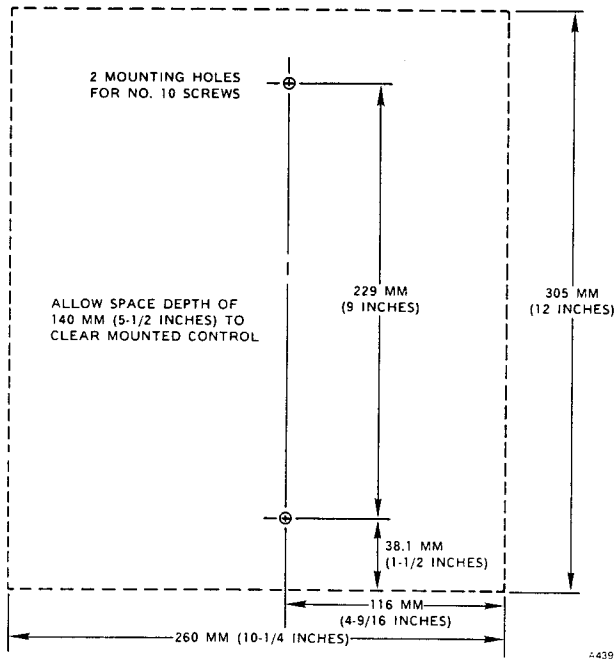

Figure 6—Space and Mounting Layout for 9001-01 Controller (Provides Approximately 1/4 inch Clearance, 3 sides, and 1-3/8 inch Wiring Clearance, Left Side)
*Timers shown in Figure 6 are electro-pneumatic type. Typical timer settings are: TP - 3 minutes, TL - 10 seconds, TM - 15 seconds.*
2. Prepare mounting holes as shown in Figure 6. Detach the amplifier module and secure the base (with long axis vertical and terminal board to left) with two No. 10 screws and lockwashers.